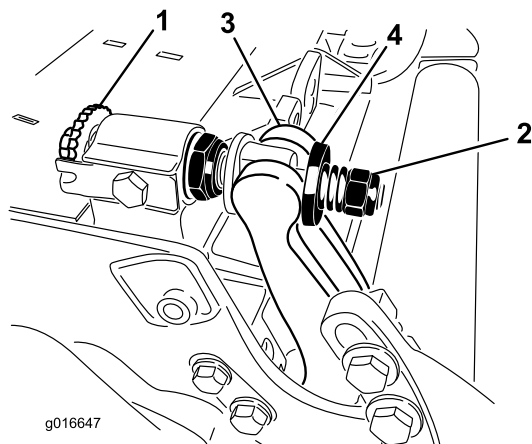

Figure 26
1. Turn bedbar adjuster screws counterclockwise to back the bedknife away from reel (Figure 26).
2. Back out the spring tension nut, until the washer is no longer tensioned against the bedbar (Figure 26).